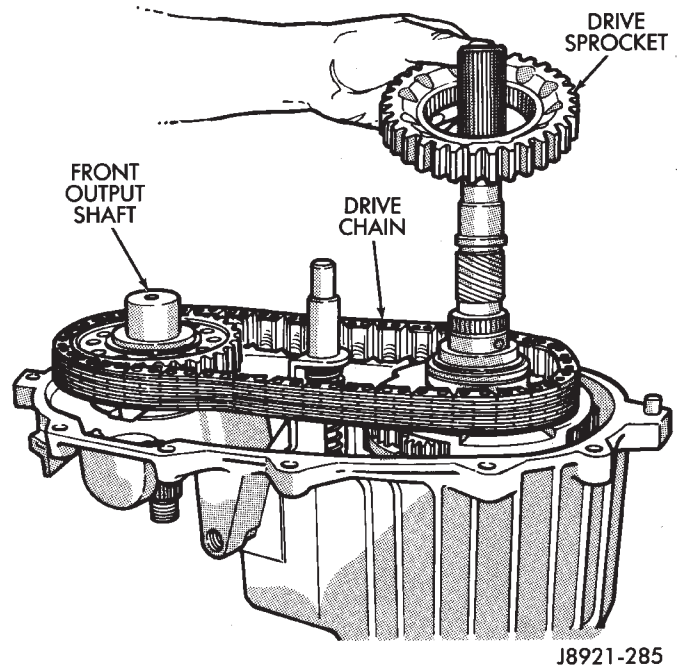

Fig. 68 Drive Chain And Sprocket Installation
(50) Install front output shaft (Fig. 68).
(51) Install drive chain (Fig. 68). Engage chain with front output shaft sprocket teeth.
(52) Install drive sprocket (Fig. 68).
(53) Engage drive sprocket teeth with chain. Then engage sprocket splines with mainshaft splines.